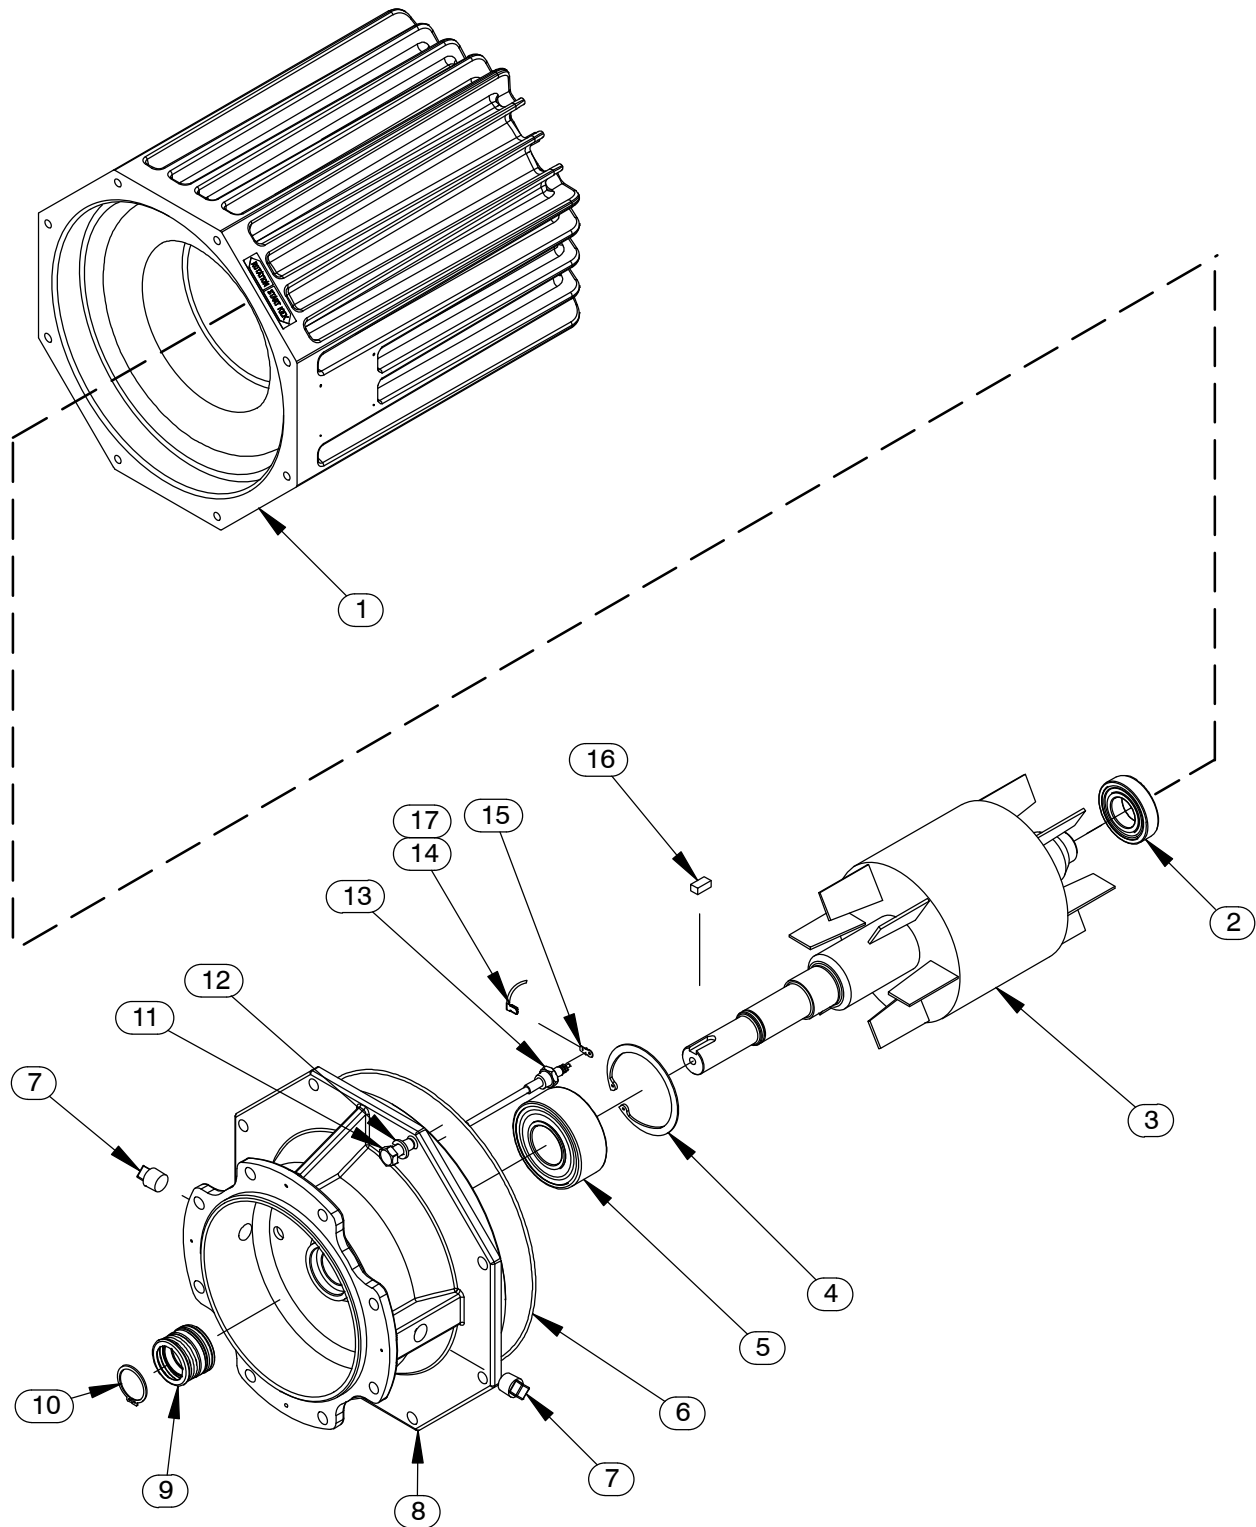

Figure E-2. Motor Assemblies
(Figure E-2)
To remove the impeller, use two thin-bladed screwdrivers positioned 180° apart to pry on the back of the impeller and “walk” the impeller off the shaft. Use increasingly larger screwdrivers (or wedges) as necessary. After the impeller comes free of the shaft, retain the impeller key (16, Figure E-2).
An alternate method of removing the stationary element is to remove the screws (8) securing the seal plate (7) to the motor assembly (14). Pry the assembled seal plate and stationary element off the shoulder of the intermediate (8, Figure E-2). Remove the O-ring (11) and press the stationary element and seat out of the seal plate from the back side.
(Figures E-2 and E-3)